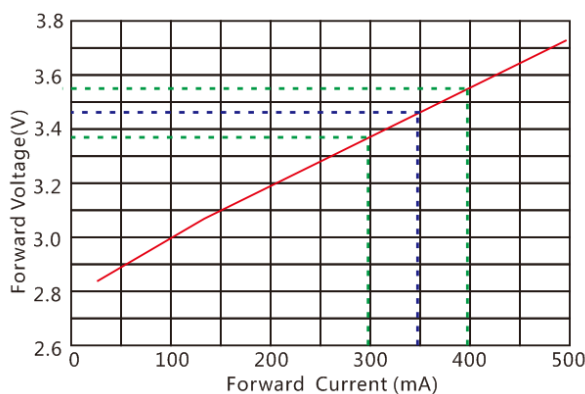

Figure 3.27 LED lamp V-I curve
A LED light bar has 10 piece LEDs in series, each single LED I-V curve showed in Figure 3.27.
3. According to the V-I curve in Figure 3.27, the tangent line slope of the working point is the operating point resistance  $R_d$ ,